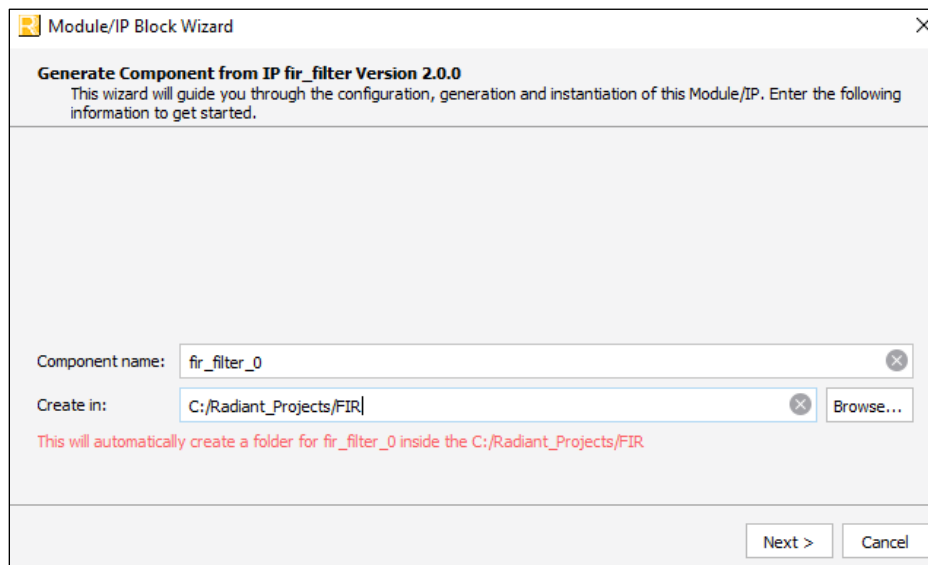

Figure 3.1. Module/IP Block Wizard
2. In the **IP Catalog** tab, double-click on **FIR Filter** under **IP-> DSP** category. The **Module/IP Block Wizard** opens, as shown in Figure 3.1. Enter values in the **Instance name** and the **Create in** fields and click **Next**.
- Click the **Finish** button. All the generated files are placed under the directory paths in the **Create in** and the **Instance name** fields shown in Figure 3.1.